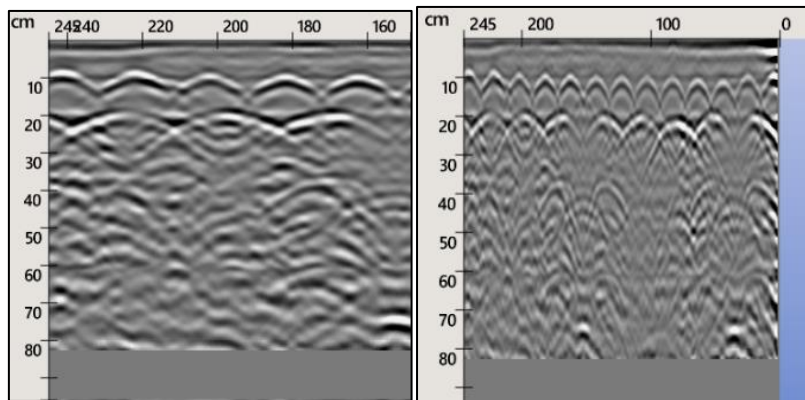

Fig. 39 – Different aspect ratio: 1:1 (left picture), 3:1 (right picture)
- **Encoder Calibration:** this allows the user to calibrate the encoder wheels. Click the “Calibration” button to start the procedure. A new window will open (Fig. 39). Click the “Start” button and push or pull the C-Thru until the bar reaches 100%.
- **Aspect Ratio:** this will change the ratio between x-axis and y-axis in the radargrams, in Fig. 39 is shown an example of aspect ratio 1:1 (left picture) and an aspect ratio 3:1 (right picture).